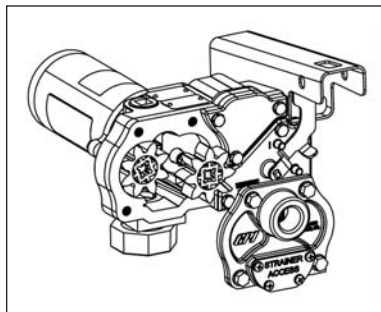

Figure 7
- Lift the drive key and gears from the pump. (Figure 7)